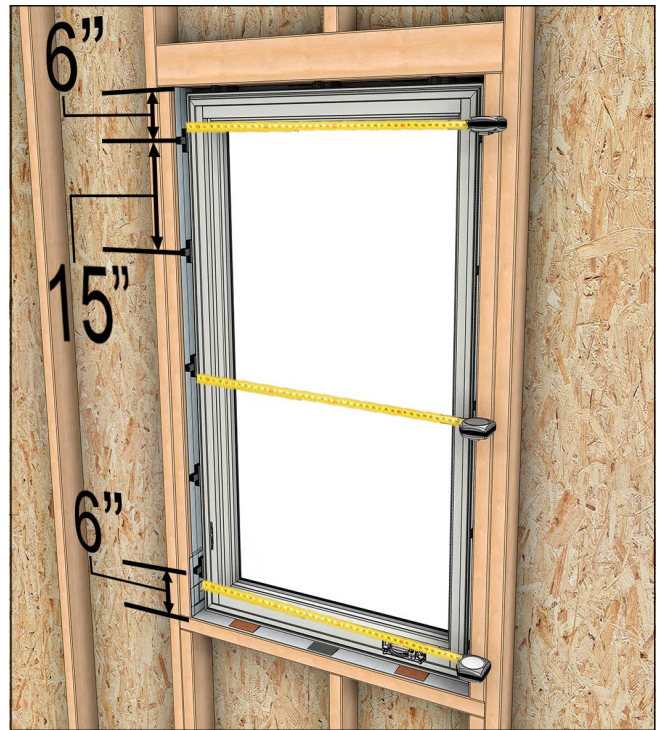

Figure 11
9. Complete shimming using shims at the spacing shown and at every through jamb screw location if applicable. Measure at head jamb, center of unit, and sill to make sure all dimensions are equal. If they are not, you will have to adjust the shims accordingly. See Figure 11.